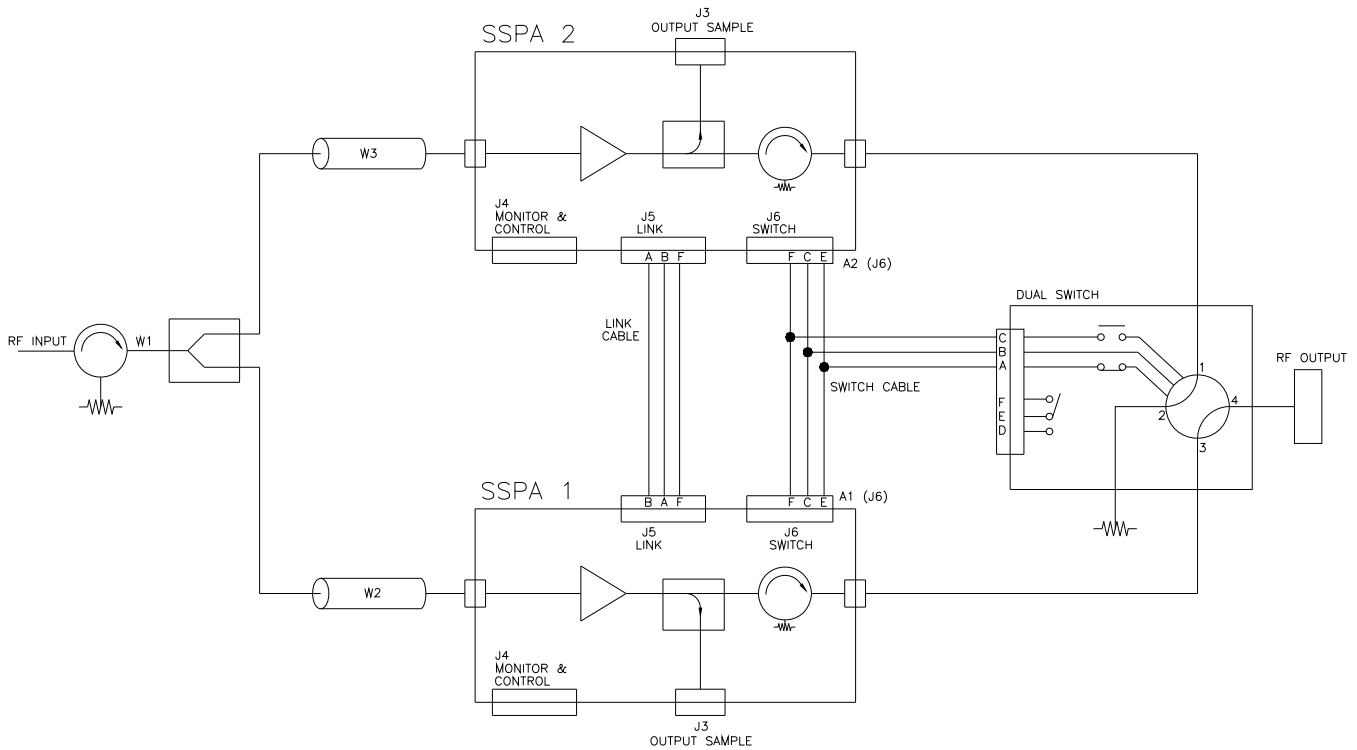

Figure 8-5: 1:1 Redundant System with Link Cable and Switch Cable installed
The hardware setup for a Compact Outdoor 1:1 Redundant System is very simple and involves the addition of (2) cables along with a redundancy switch. A schematic diagram of the redundancy setup is shown in **Figure 8-5**.